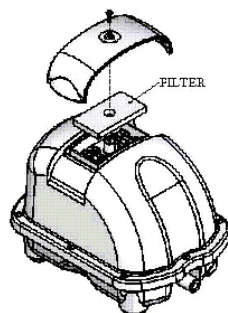

FIG. 1
1. Loosen the screw on top. (As shown in figure 1)